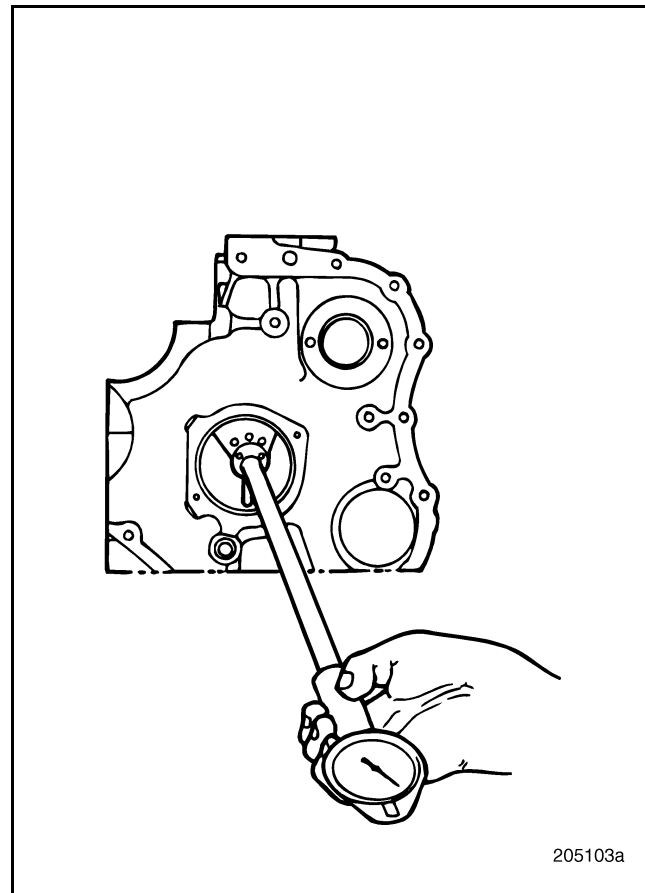

Figure 139 — Camshaft Bushing ID Check
6. After all the bushings are in place, measure the ID of each to ensure that they are not undersize because of burrs on the OD caused by installation (Figure 139). Refer to the Fits and Limits charts in the SPECIFICATIONS section for the correct bushing ID dimensions.